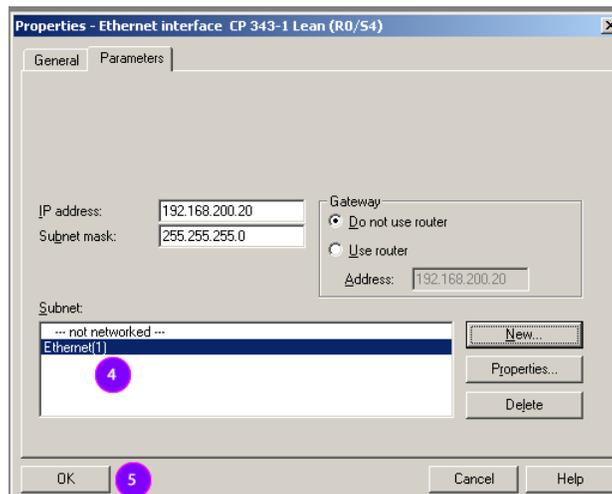

Figure 24.
4. Make sure the Ethernet network just created is selected. This identifies the Network the CP343 will be connected to and activates the Ethernet port (Figure 24).